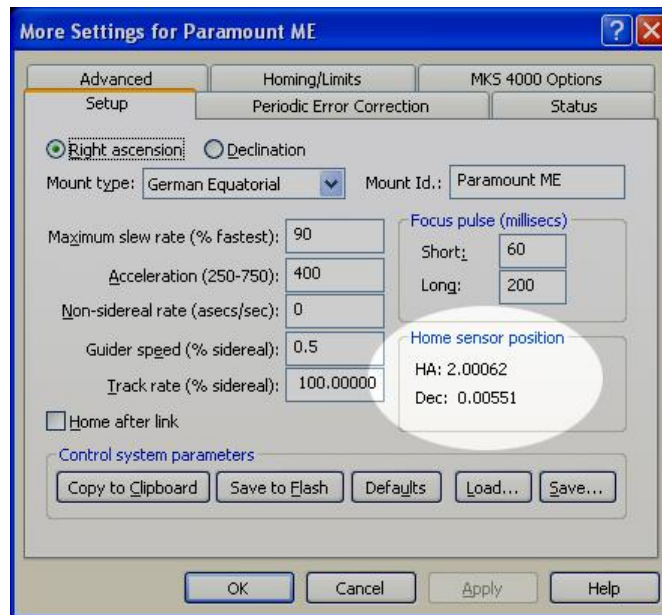

Figure 52: The homing sensor positions computed by TheSky6.
8. Click **Sync** on the Telescope tab of the large Object Information dialog box (see Figure 52). When the Sync Confirmation dialog box appears, click **OK**.
Professional Edition, click Telescope > Options > More Settings. The Setup tab shows the Home Sensor Position (see Figure 52).